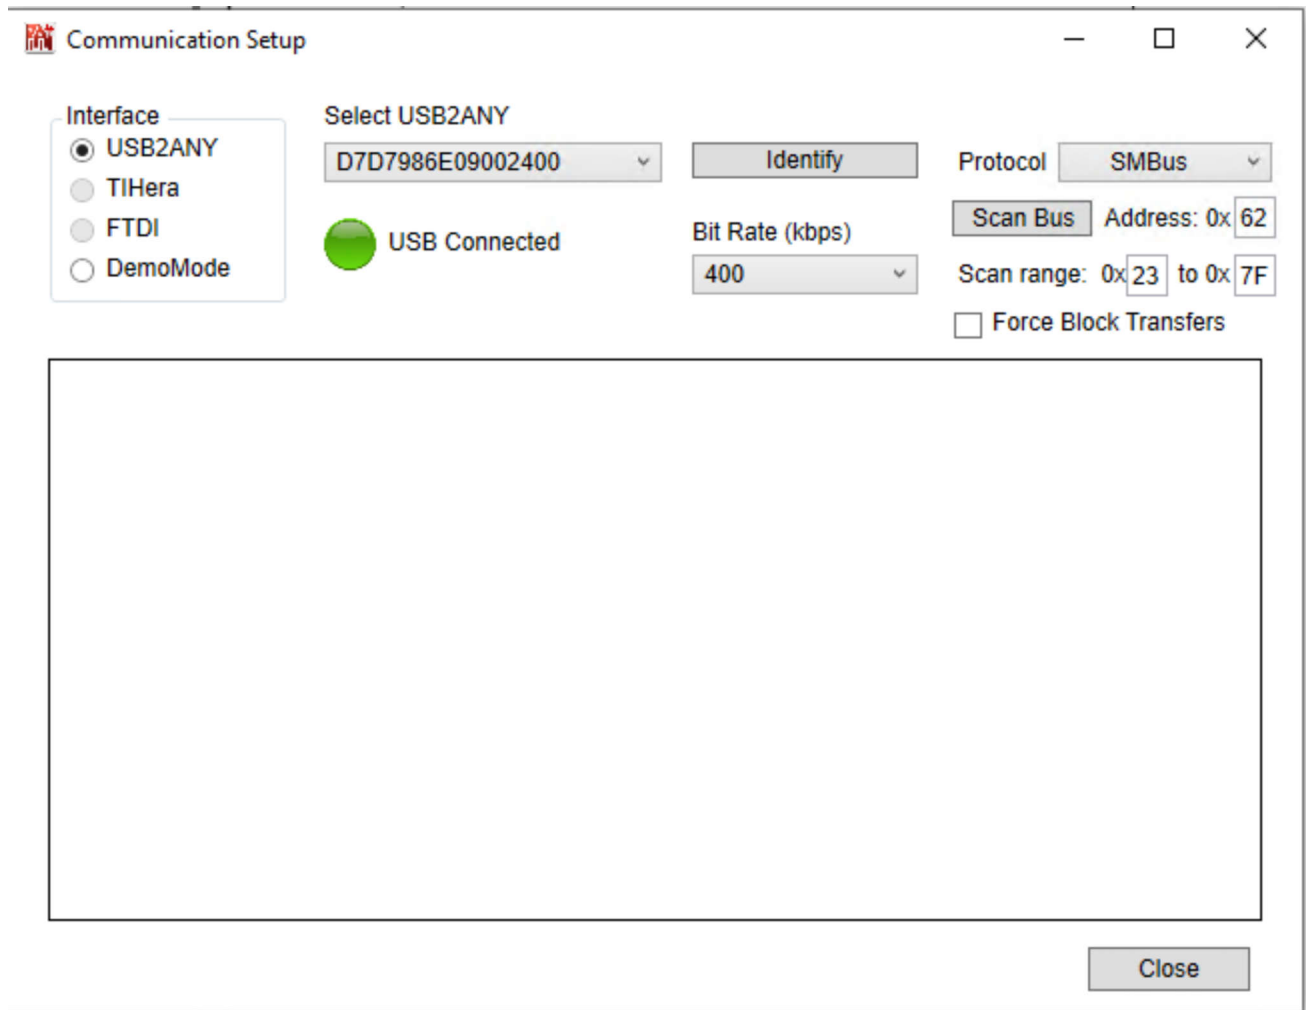

Figure 3-2. Communication Setup
- d. Confirm all the fields match the ones shown in Figure 3-2.